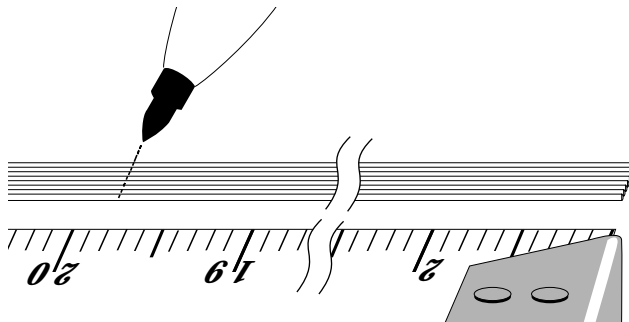

Figure 6
5.2 Measure the required distance on the ribbon with a tape measure and mark this point with a permanent marking pen (Figure 6).